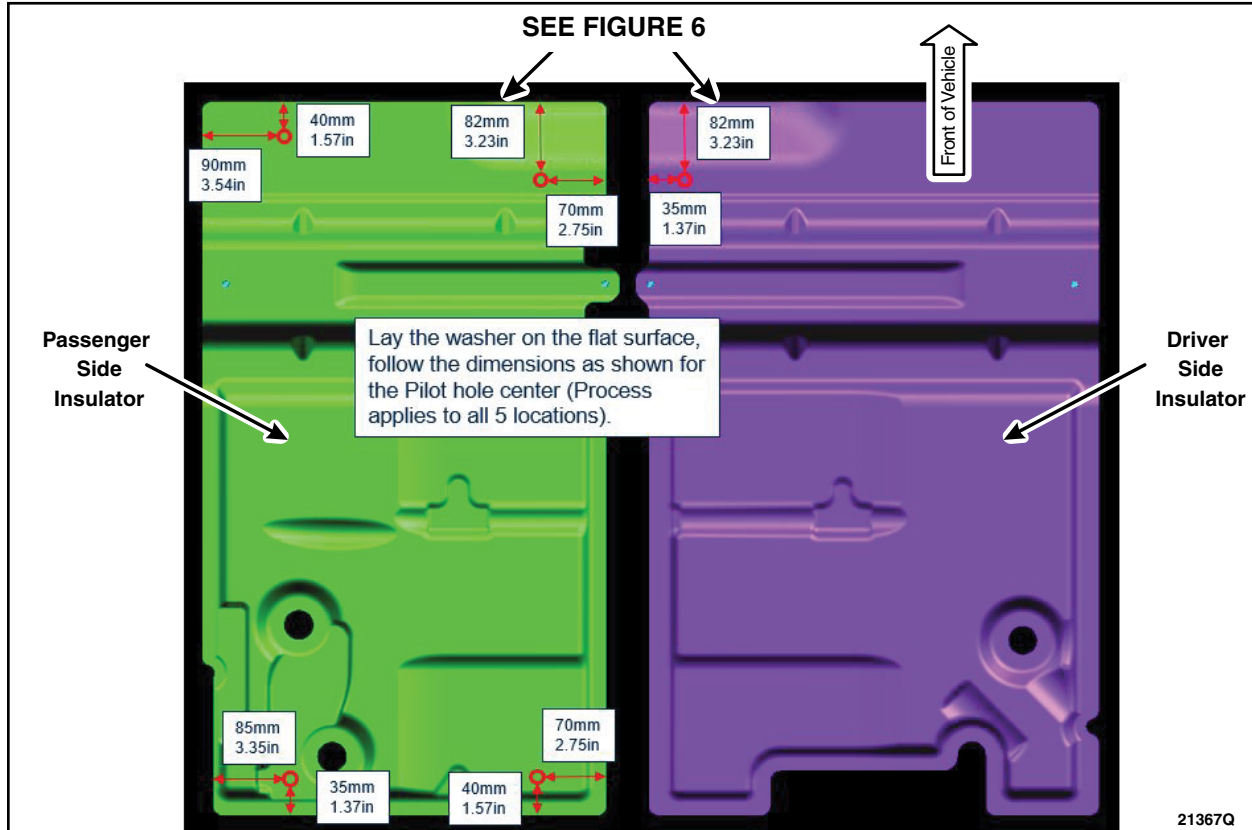

FIGURE 5
5. Measure and mark the four locations on the passenger side insulator and mark the one location on the driver side insulator. See Figures 5 and 6.